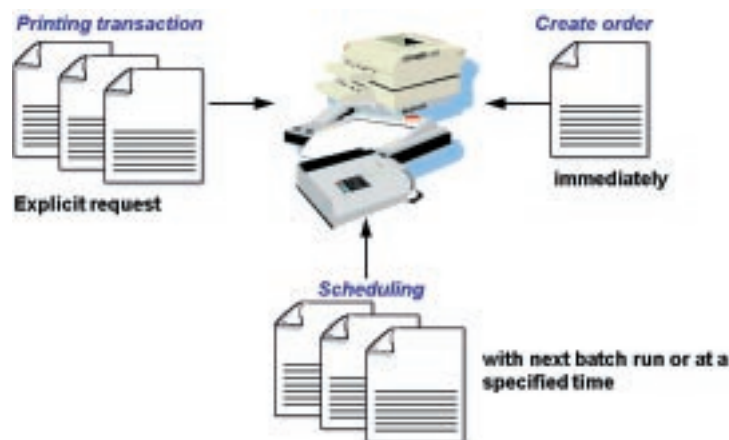

Fig. 12-2: Time of message transmission
- You can select the time at which the message is sent (see Figure 12-2). The following options are defined in the system: